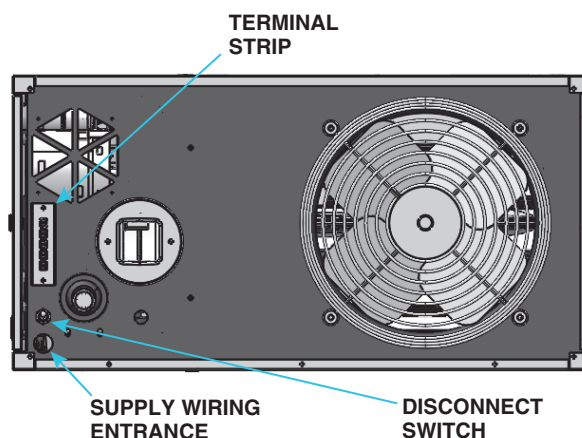

Figure 16. Supply Wiring Entrance and Control Connection Terminal Strip
- All units have a built-in disconnect switch (see Figure 16).
- The supply wiring enters at the rear of the heater as shown in **Figure 16** and connects to the disconnect toggle switch.
Make thermostat connections at the terminal strip on the back of the heater (see **Figure 16**). The strip has five terminals: C, R, G, W1, and W2. Refer to the wiring diagram provided with the heater. Wires from the terminal strip are factory-wired to the circuit board. Ensure that if there is a heat anticipator setting on the thermostat, it is set at 0.6 amps or in accordance with the amperage value noted on the heater wiring diagram.